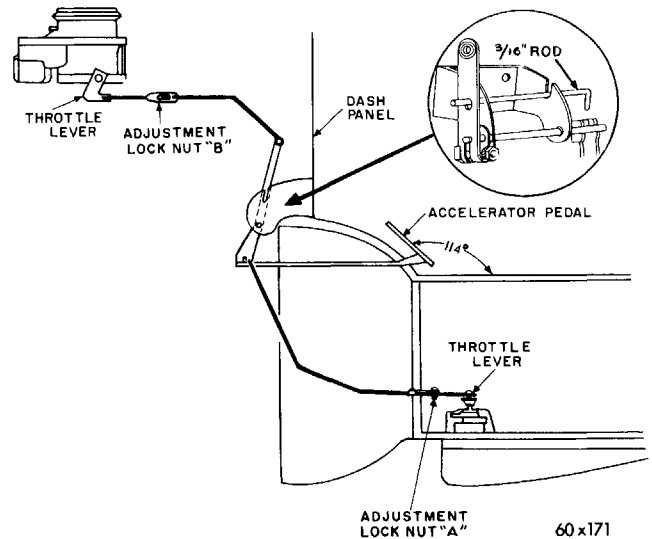

Fig. 4—Throttle Linkage Adjustment
Throttle Linkage Adjustments (Refer to Fig. 4)
sembly rod adjusting locknut "A" Figure 4.
(5) Remove rod from accelerator lever, shaft and bracket assembly.
(6) With the carburetor throttle lever off the fast idle cam and against the idle stop screw, move the rear half of the carburetor rod rearward until the stop in the transmission is felt, tighten locknut "B". Figure 4.
(7) The accelerator pedal should be at an angle of 113 to 114 degrees to the horizontal. If necessary to correct, adjust pedal angle by removing the accelerator pedal end of the bell crank to pedal rod, and shortening or lengthening the rod by loosening the lock nut at the swivel end and rotating the swivel. Reinstall the rod and tighten the locknut. **Be sure the rod is properly aligned to prevent binding. Poor engine performance due to carburetor throttle not opening fully or lack of kickdown may result if accelerator pedal angle is incorrect.**